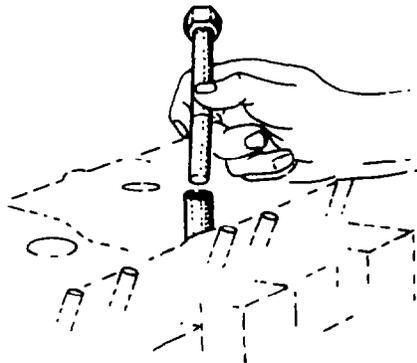

Fig. 17 — Installing Tool J-25260
- a. Install the valve guide removing tool J-25260, or equivalent, into the valve guide (see fig. 17).